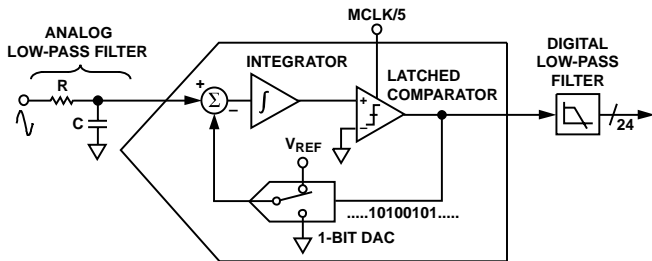
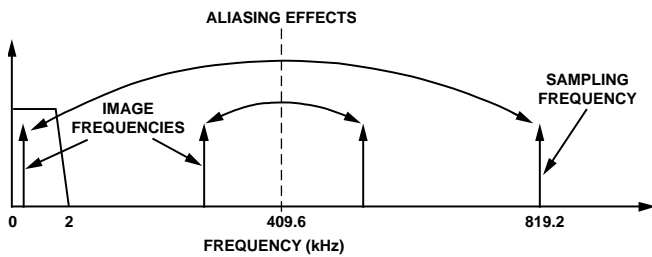

Figure 18. First-Order Σ - Δ ADC
Figure 20. ADC and Signal Processing in current channel Outline Dimensions
For simplicity, the block diagram in Figure 18 shows a first-order Σ - Δ ADC. The converter is made up of the Σ - Δ modulator and the digital low-pass filter.
Figure 18 also shows an analog low-pass filter (RC) on the input to the modulator. This filter is present to prevent aliasing. Aliasing is an artifact of all sampled systems. Aliasing means that frequency components in the input signal to the ADC, which are higher than half the sampling rate of the ADC, appear in the sampled signal at a frequency below half the sampling rate. Figure 20 illustrates the effect. Frequency components (arrows shown in black) above half the sampling frequency (also known as the Nyquist frequency, i.e., 409.6 kHz) are imaged or folded back down below 409.6 kHz. This happens with all ADCs regardless of the architecture. In the example shown, only frequencies near the sampling frequency, i.e., 819.2 kHz, move into the band of interest for metering, i.e., 40 Hz to 2 kHz. This allows the use of a very simple LPF (low-pass filter) to attenuate high frequency (near 819.2 kHz) noise, and prevents distortion in the band of interest. For conventional current sensors, a simple RC filter (single-pole LPF) with a
corner frequency of 10 kHz produces an attenuation of approximately 40 dB at 819.2 kHz — see Figure 20. The 20 dB per decade attenuation is usually sufficient to eliminate the effects of aliasing for conventional current sensors. However, for a di/dt sensor such as a Rogowski coil, the sensor has a 20 dB per decade gain. This neutralizes the -20 dB per decade attenuation produced by one simple LPF. Therefore, when using a di/dt sensor, care should be taken to offset the 20 dB per decade gain. One simple approach is to cascade two RC filters to produce the -40 dB per decade attenuation needed.